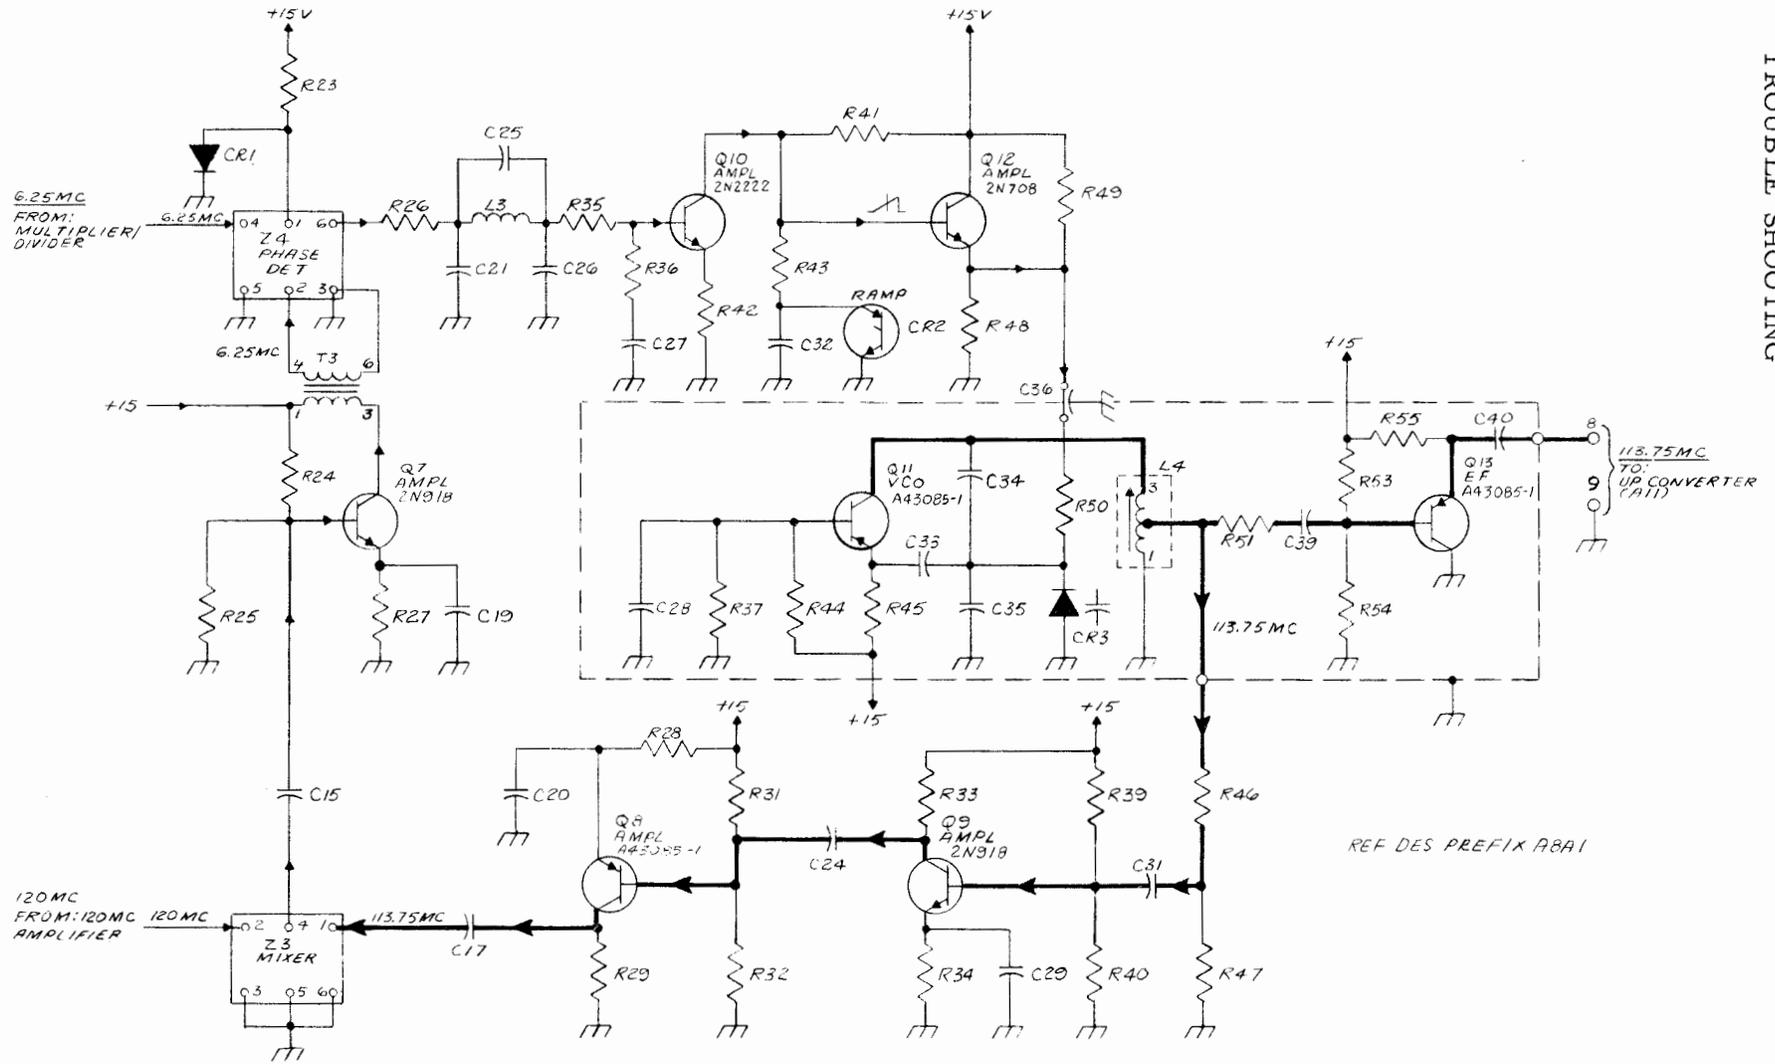

Figure 4-9. 113.75 Mc VCO and Phase-Locked Loop, Simplified Schematic Diagram
(2) 113.75 MC FREQUENCY GENERATOR A8A2. (See figure 4-9.) - The 113.75 mc frequency generator contains a frequency multiplier-divider circuit (Q1, Q3, Q4, Z1, and Z2) which produces a 6.25 mc output frequency from a 5 mc input frequency. The multiplier-divider is followed by phase detector Z4 and dc amplifier Q10, Q12. The phase detector output is used to control the frequency of 113.75 mc VCO, Q11. The 113.75 mc frequency generator also contains a 120 mc amplifier and mixer circuit (Q2, Q5, and Z3) and the oscillator buffer-amplifier (Q8 and Q9).